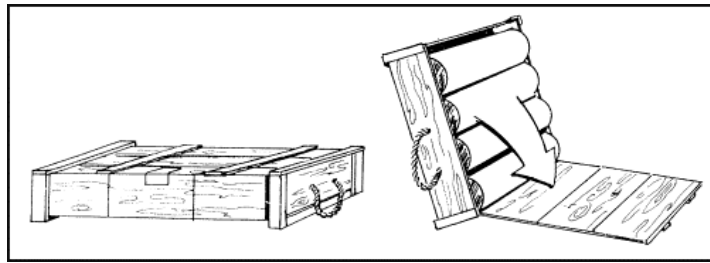

Figure 4-8. Correct way to open an ammunition box.
- (1) Ammunition should be free of moisture, rust, and dirt.
- (2) The fin and fuze assembly must be checked for tightness and damage.
- (3) Charges must be kept dry.
- (4) Extra increments are removed if the cartridge is to be fired with less than full charge.
- (5) With the exception of a few unused increments (within the same ammunition lot number) as replacements for defective increments, excess powder should be removed from the mortar position.
- (6) The primer cartridge is checked for damage or dampness.
- (7) When opening an ammunition box, the ammunition bearer ensures the box is horizontal to the ground, not nose- or fin-end up. After the bands are broken and the box opened, the rounds should be removed by allowing them to roll out along the lid of the box (Figure 4-8). After the rounds have been removed, they should always be handled with two hands to prevent accidental dropping. Dropping may cause the propellant charges to ignite, causing bodily injuries.